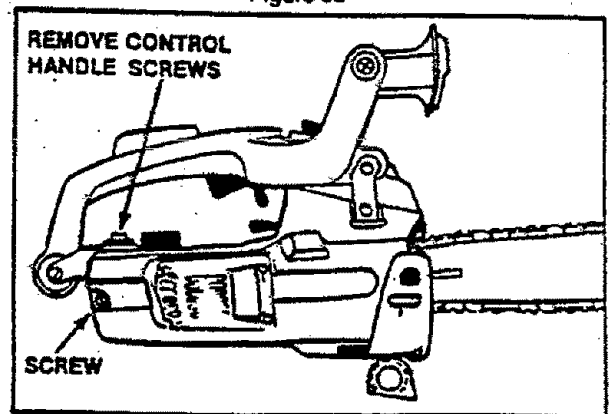

Figure 39
3. Remove the large screw at the rear of the control handle and the small screw directly below it. Figure 39.